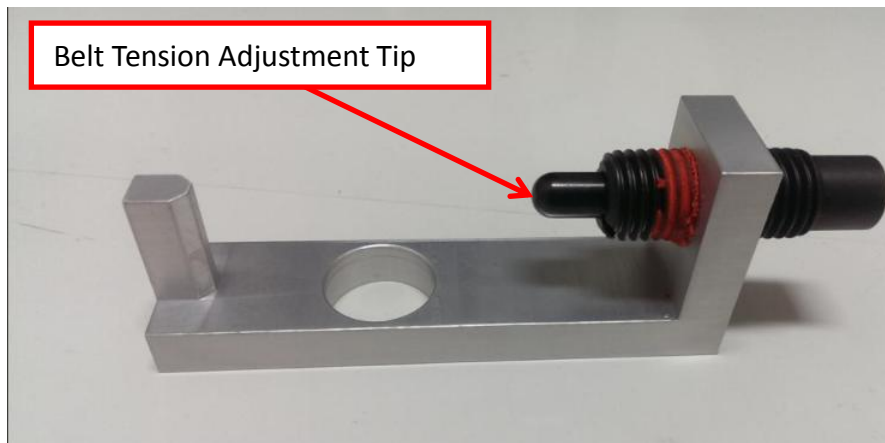

Figure 31 Belt Tension Kit
4. Prepare Belt Tension Kit (Part ID: 4XASP-A114) as shown in Figure 31